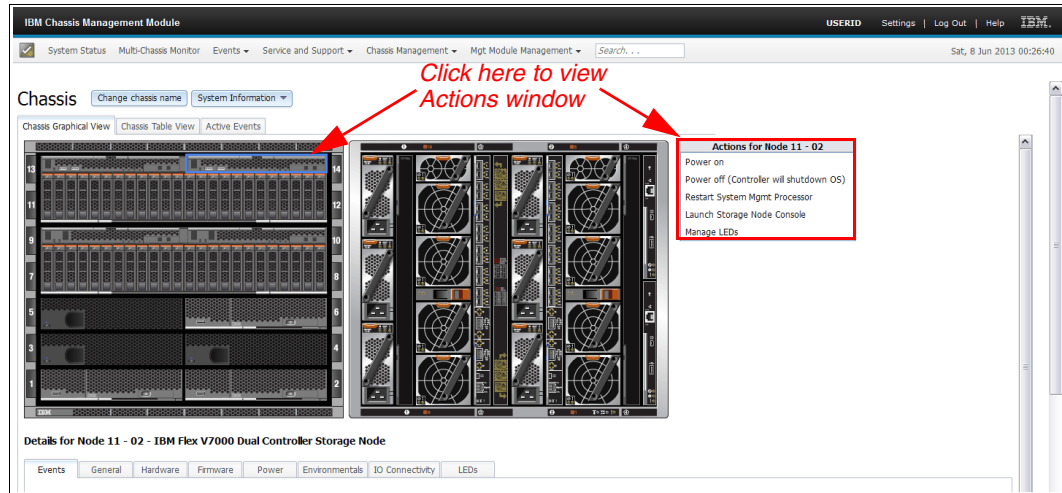

Figure 13-52 CMM actions for Node canister
2. If the Flex System V7000 Storage Node does not automatically power on, use the CMM (as shown in Figure 13-52) or FSM GUI / CLI to request power-on for the Flex System V7000 Storage Node.
1. Open the CMM and navigate to the Chassis Map. The Chassis Map displayed by the CMM provides a graphical view of the IBM Flex System Enterprise Chassis components. Using the mouse, locate the node that you want to power off, as shown in Figure 13-52 on page 626.